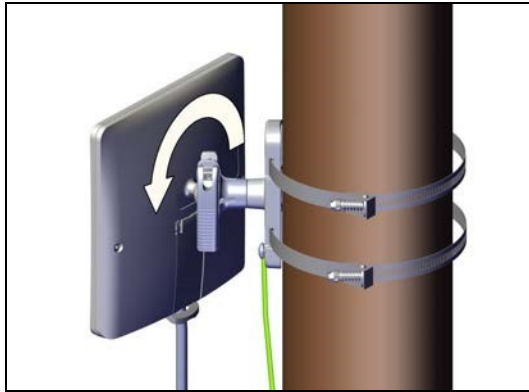

Figure 2-57: Tighten arm on mount: SU PRO/AIR EMB radio unit
- Once alignment is complete, tighten the arm on the SU PRO/AIR EMB mounting kit (see Figure 2-57 for the SU PRO/AIR EMB) or tighten the bolt on the standard mounting kit (see Figure 2-33 for an external antenna, and Figure 2-59 for the SU PRO/AIR INT).